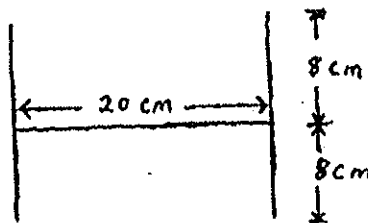

Fig. 8
15. (a) (i) Derive the expression for buckling stress for a thin plate under compression. (6)
- (ii) Obtain the critical load for the composite section shown in Fig. 8. Effective width is 150 cm. $E = 200$ GPa. (10)